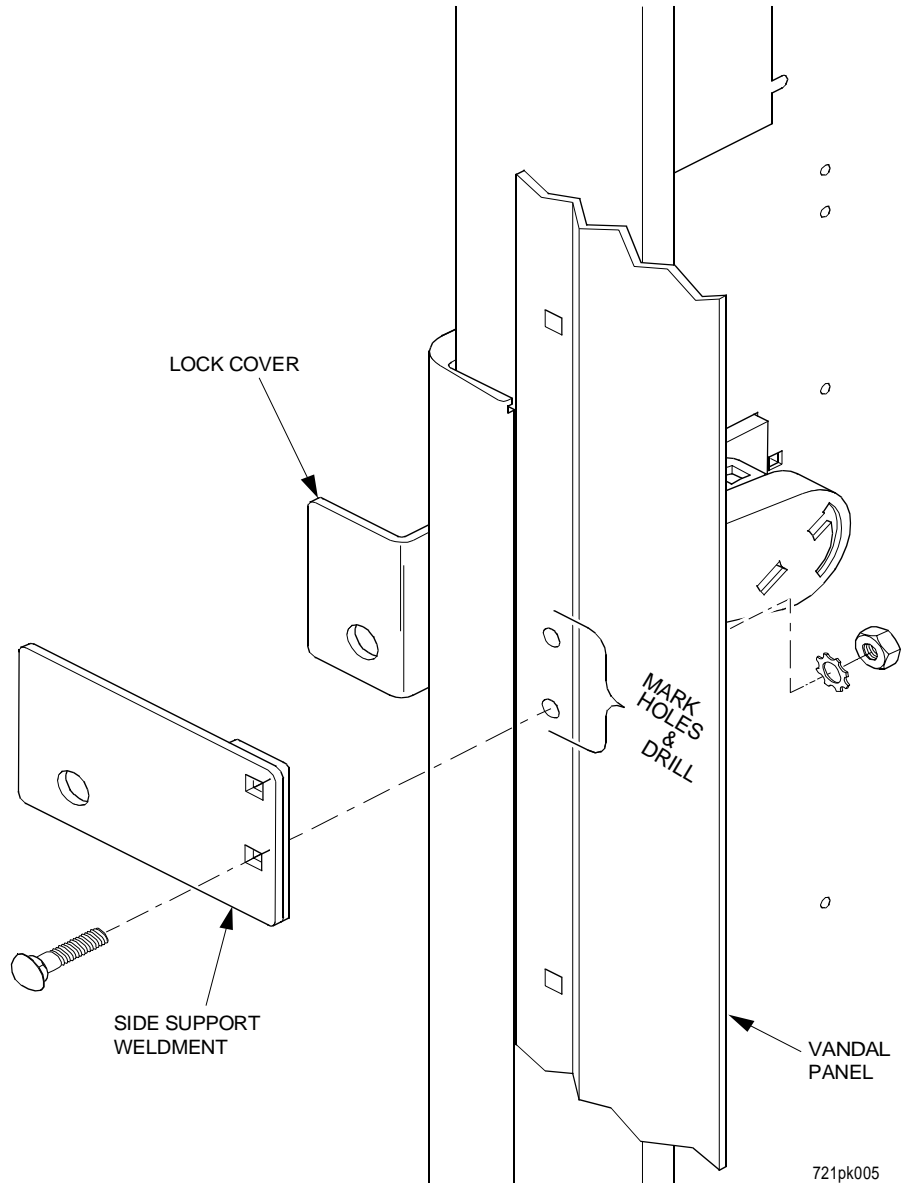

Figure 3
8. Attach the lock assembly to the main door with the two (2) carriage bolts removed previously.
13. Position lock cover horizontally and hold side support weldment in position tightly against the bend in the vandal panel (see figure 3). Mark the center of the two square holes on the door vandal panel.
15. Attach the side support weldment with the two (2) carriage bolts, nuts, and washers provided (see figure 3).